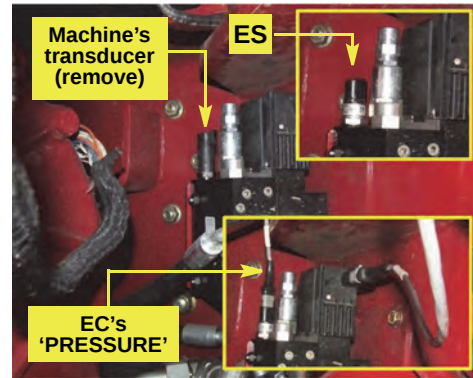

Figure 3g: Pressure transducer replacement
- g. Locate the machine's existing PVE pressure transducer in the PVE block (Figure 3g - see also step 3f). Remove it and install replacement transducer **ES** (Figure 3g top inset). Connect **EC's** branch cable labeled 'PRESSURE' to the newly installed transducer (Figure 3g bottom inset).